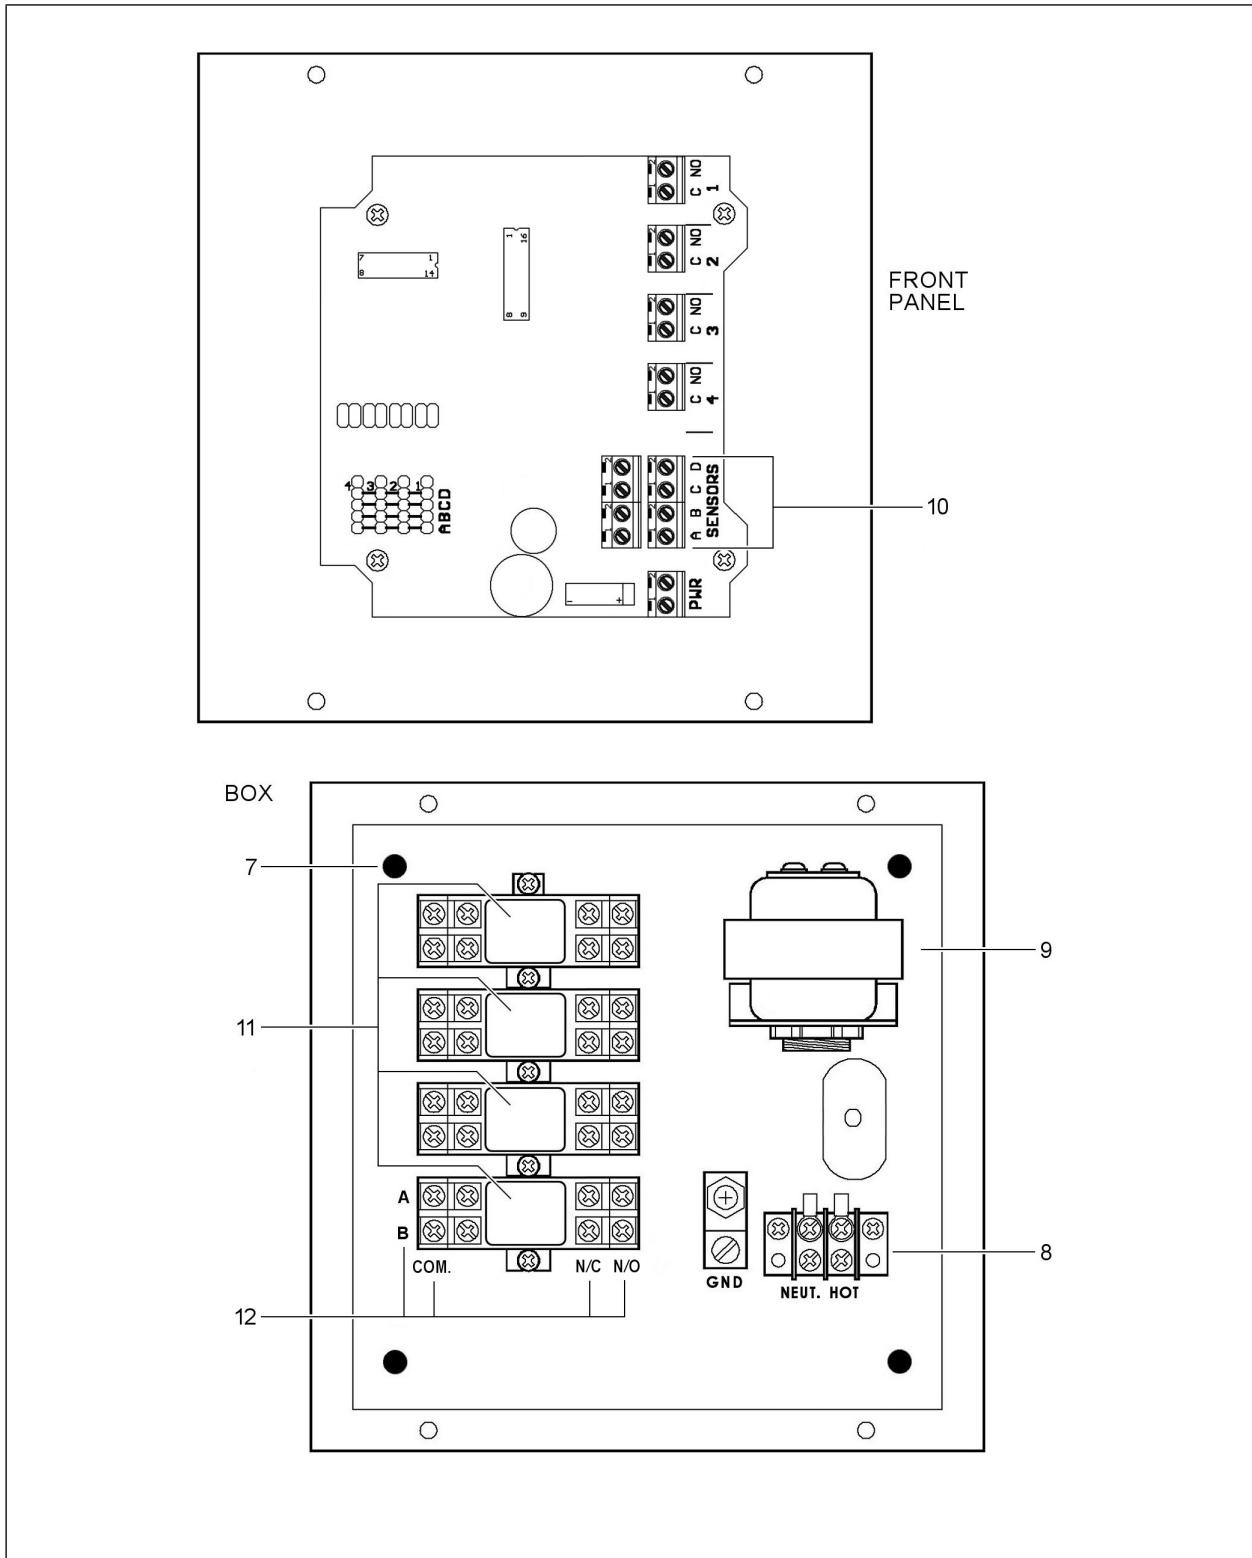

FIGURE 2: Internal features of the ATI-1503 annunciator (1503-4 shown).
Refer to FIGURE 2 for the following.
**POWER SUPPLY**            The monitor operates on a 120 VAC supply. Connections are made to the power terminal block located on the control card inside the unit (see FIGUREs 2, 3A & 3B).
**RELAYS**                    There are 2 or 4 internal DPDT relays (one per channel). The relay contacts are rated up to 15 Amps @ 120VAC/30VDC or 10 Amps @ 250VAC resistive. External alarms or devices can be connected to the relay contact terminals (see FIGURE 2).